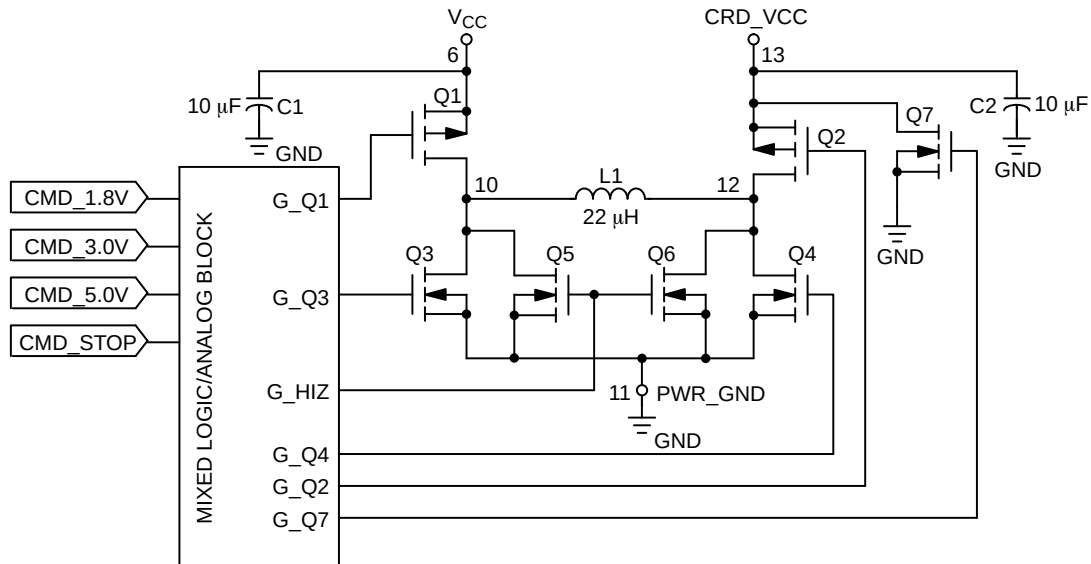
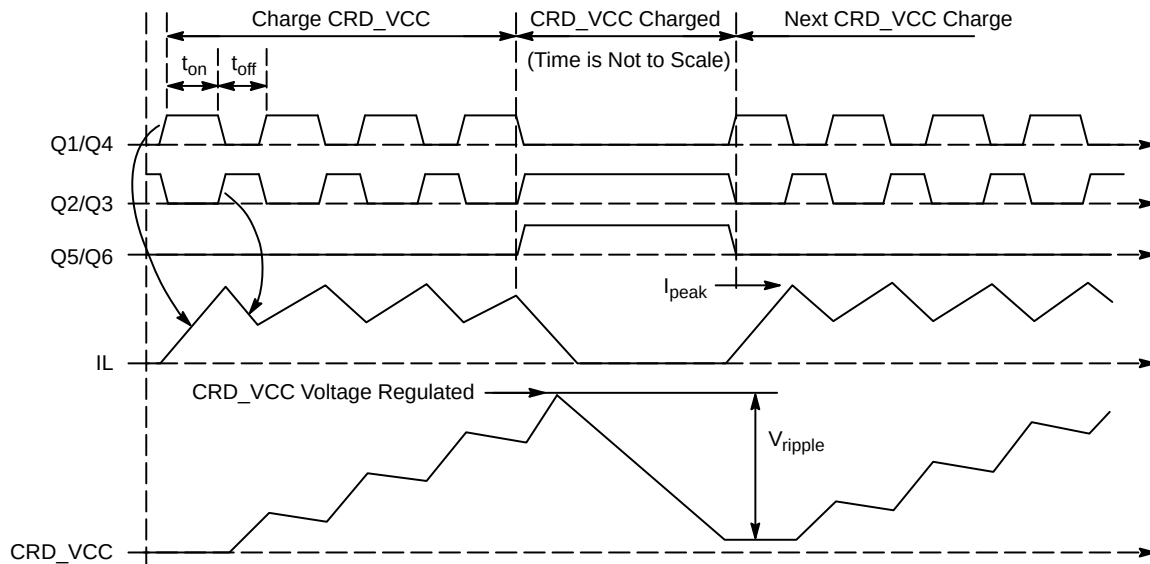

Figure 16. Basic DC/DC Converter
Figure 17. Theoretical DC/DC Operating Waveforms
The power conversion is based on a full bridge structure capable to handle either step up or step down power supply (Figure 16). The operation is fully automatic and, beside the
The system operates with a two cycles concept (all comments are referenced to Figure 16 and Figure 17):
- When the output voltage reaches the specified value (1.8 V, 3.0 V or 5.0 V), Q2 and Q3 are switched OFF immediately to avoid over voltage on the output load. In the meantime, the two extra NMOS Q5 and Q6 are switched ON to fully discharge any current stored into the inductor, avoiding ringing and voltage spikes over the system. Figure 17 illustrates the theoretical waveforms present in the DC/DC converter.